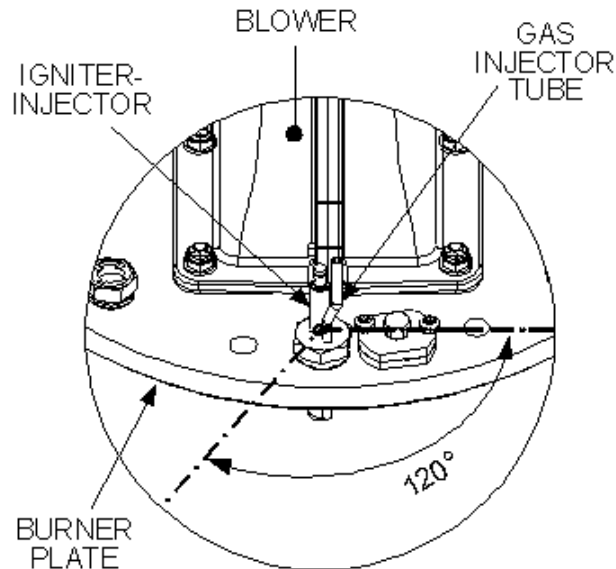

Figure 8: Benchmark 2.0LN Igniter-Injector Orientation
3. Reinstall the Igniter-Injector and, if necessary, install 1, 2 or 3 clocking washers to properly position the Gas Injector Tube within the 120° angle shown in Figure 8. Torque the Igniter-Injector to 15 ft.-lbs. Do not over tighten.